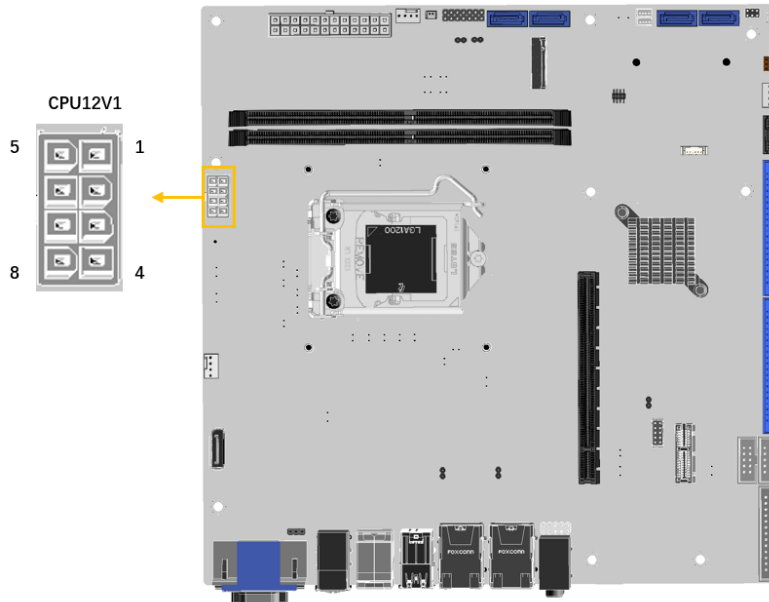

Figure 3-6: CPU 12V Power Connector Location
- CN Location:** See **Figure 3-6**